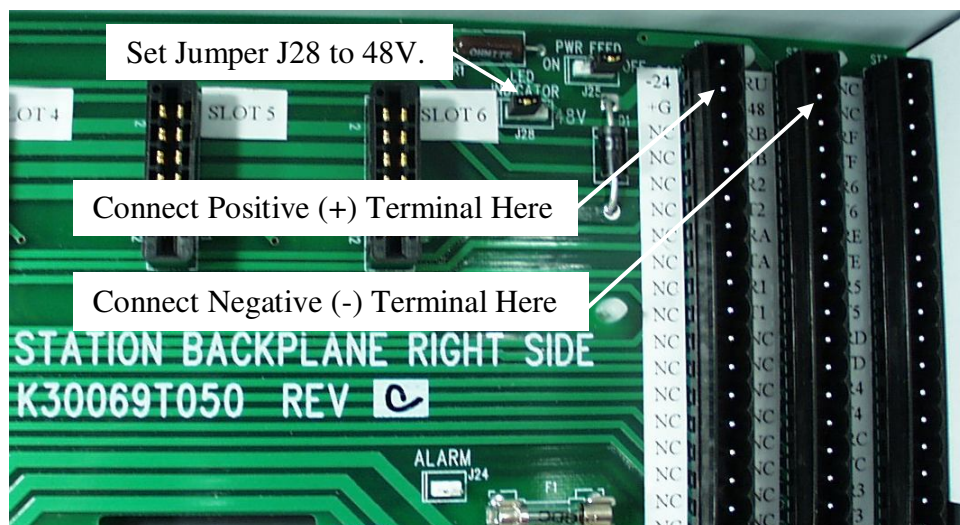

Figure 4: Connecting 48V External Power Supply
Each of the six (6) slots will support two (2) pairs. The first pair is connected to the left side of the backplane jacks and assigned a numeric designation (i.e. T1, R1, etc.). The second pair is connected to the right side of the backplane jacks and is assigned an alpha designation (i.e. TA, RA, etc.). (See Table 2 and Figure 4)
Each of the twelve (12) slots will support two (2) pairs. The first pair is connected to the left side of the backplane jacks and assigned a numeric designation (i.e. T1, R1, etc.). The second pair is connected to the right side of the backplane jacks and is assigned an alpha designation (i.e. TA, RA, etc.). See Table 4 and Figure 4